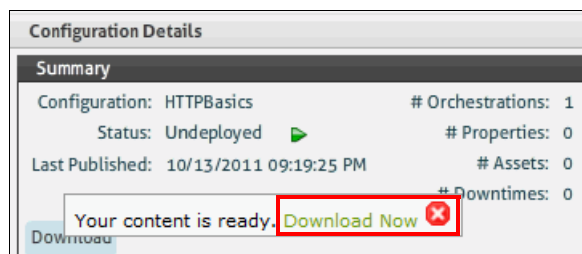

Figure 6-9 Download Now
4. Click **Download Now**, as shown in Figure 6-9.